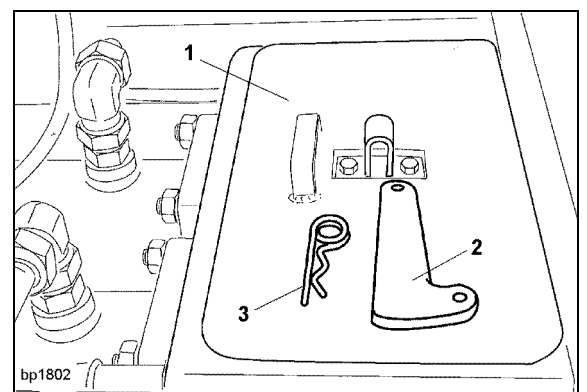

Fig.: 3
- Fill the water box (1) (Fig.: 3) to the top edge of the pumping pistons.